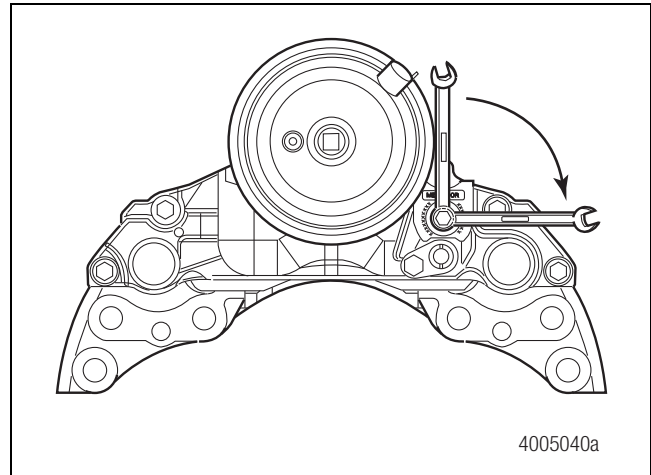

Figure 4.4
2. With the 10 mm wrench on the adjuster stem, actuate the brake one time. Figure 4.4.